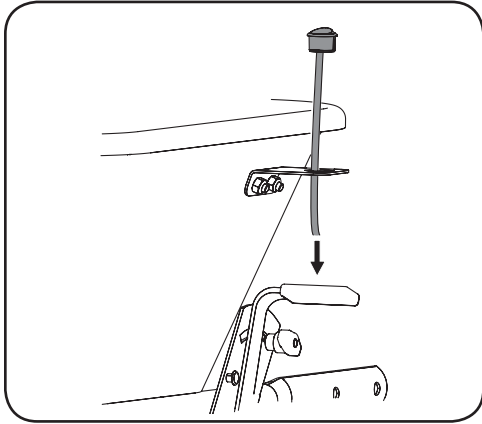

Figure 2-17
8. run the switch harness down through the switch harness bracket and snap into bracket. See Figure 2-17.